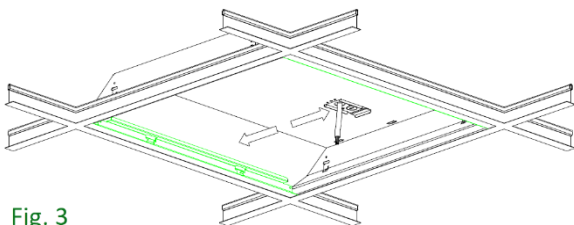

Fig. 3
- Slide the bracket to both sides and make it fixed. (Fig. 3)